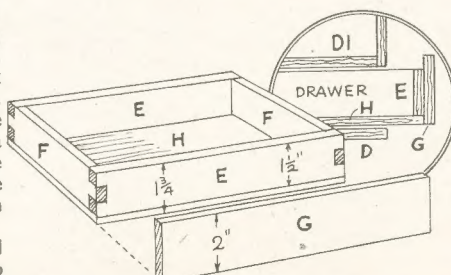

Fig. 2—Construction and detail of drawer
The drawer is simple in construction, as Fig. 2 shows. There is a shallow frame made from four rails 1 $\frac{1}{2}$ ins. wide, the two side rails (F) measuring 9ins. long and two rails (E) 11 $\frac{1}{2}$ ins. long. All are lock-jointed at the angles, see Fig. 2. A floor piece will be glued to the frame, and the edges round afterwards glass-papered and made to fit neatly into its opening in the box. To the front rail (E) of the drawer is fixed an outer front (G), measuring 12ins. by 2ins. by $\frac{1}{4}$ in.
In fixing on the front (G) see that its lowermost edge comes flush with the lower edge of the floor. The dotted line shows this in the large circled diagram in Fig. 2.